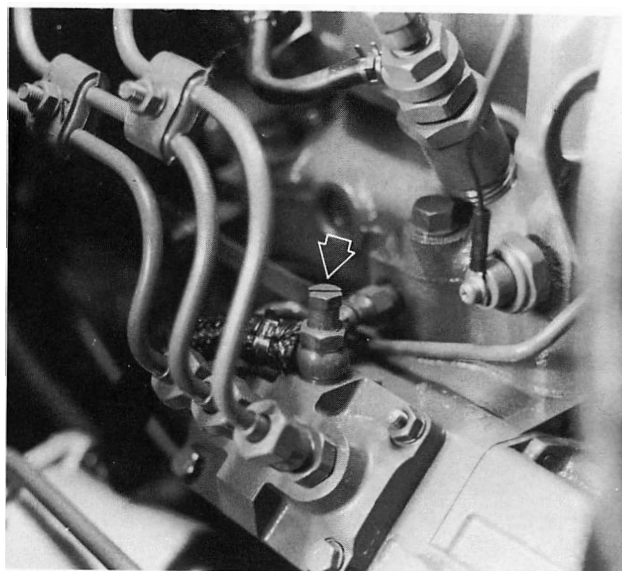

Figure 36 – Fuel System Bleed Screw
3. Open the bleed screw (Figure 36) and let the air bubbles escape from the strainer, then close the bleed screw.